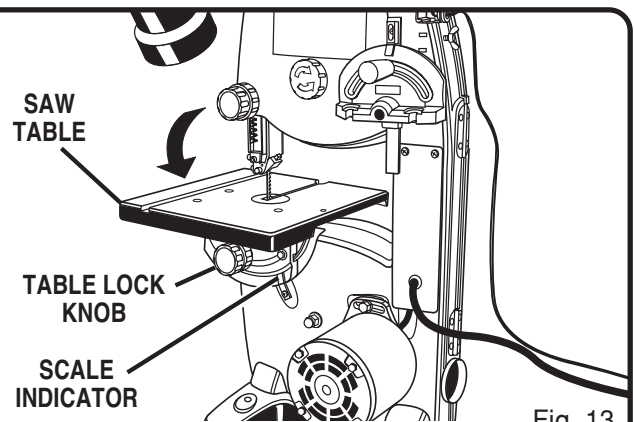

Fig. 13
See Figure 13.
See Figures 13 and 14.
**NOTE:** For convenience, store the miter gauge in the slot provide on the back of the band saw. See figure 13.